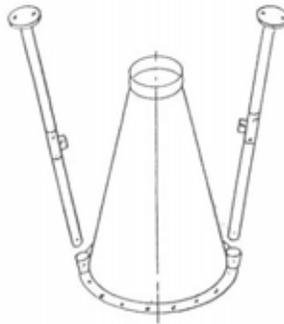

FIG. 2
2. Turn the reducing collector support frame upside down. Insert 3 pieces of supporting leg by using 6 hex head screws $5/16'' \times 1/2''$. (Fig 2)